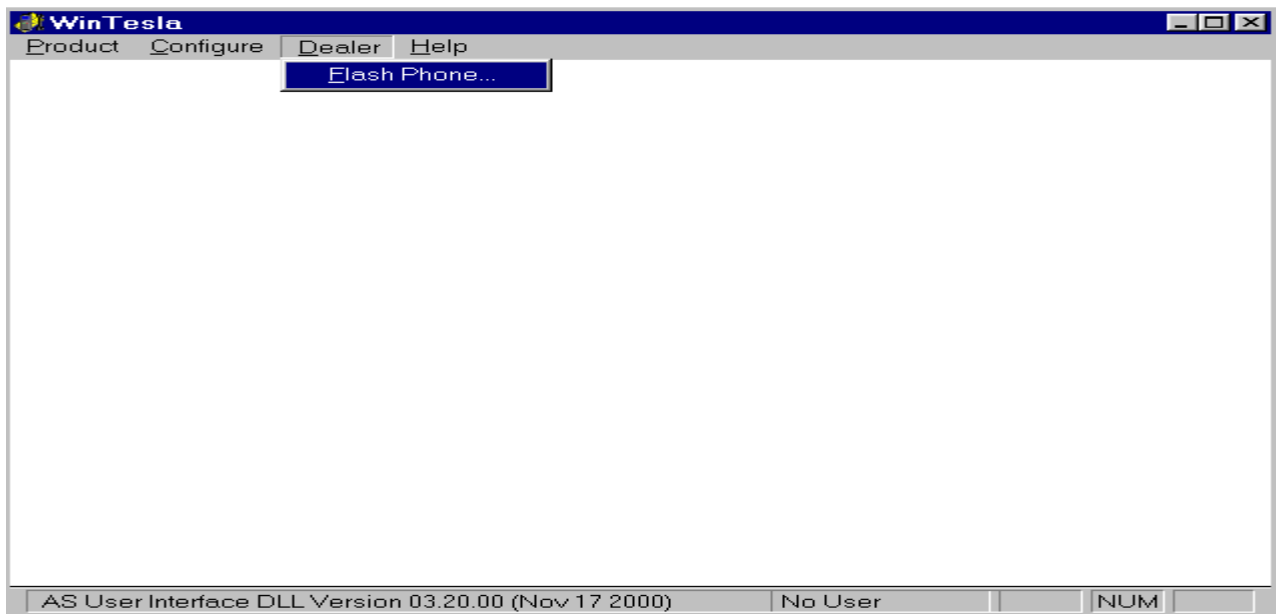

Figure 14. Wintesla dialog when the RAE-3 is not running
3. Then use Dealer > Flash Phone (Figure 14)